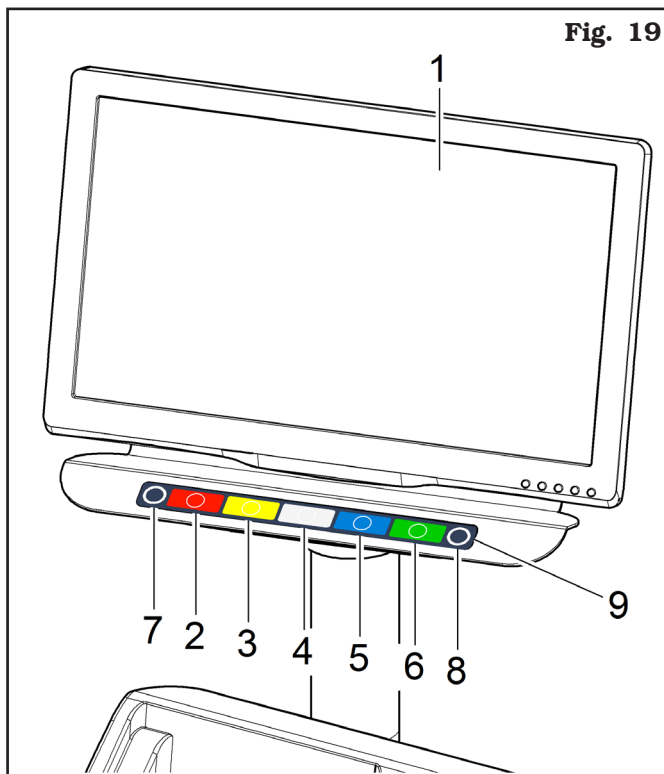

Fig. 19
At the bottom of the main screen page and of each screen page described below, there will be coloured rectangles (**Fig. 20 ref. B**) located above function identification icons (**Fig. 20 ref. C**). These functions are activated by pressing the appropriate coloured button on the push-button panel (**Fig. 19 ref. 9**). Press the button (**Fig. 20 ref. 3**) to display a second page where you can access the "Technical assistance" menu and the "Run-out" menu (see **Fig. 21**).